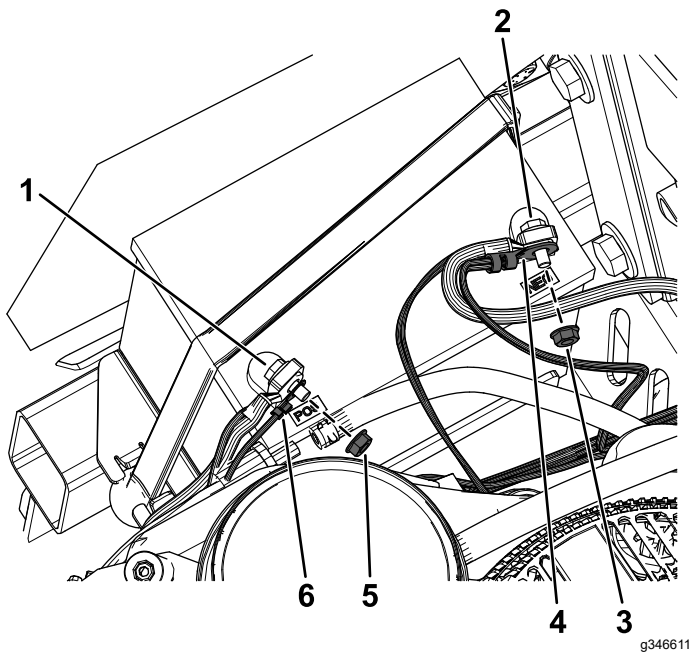

Figure 23
5. Remove the nut from the positive battery terminal and install the kit wire harness positive terminal ring onto the bolt (Figure 23).
6. Secure the positive terminal ring using the previously removed nut (Figure 23).
8. Remove the nut from the negative battery terminal and install the kit wire harness negative terminal ring onto the bolt (Figure 23).
9. Secure the negative terminal ring using the previously removed nut (Figure 23).